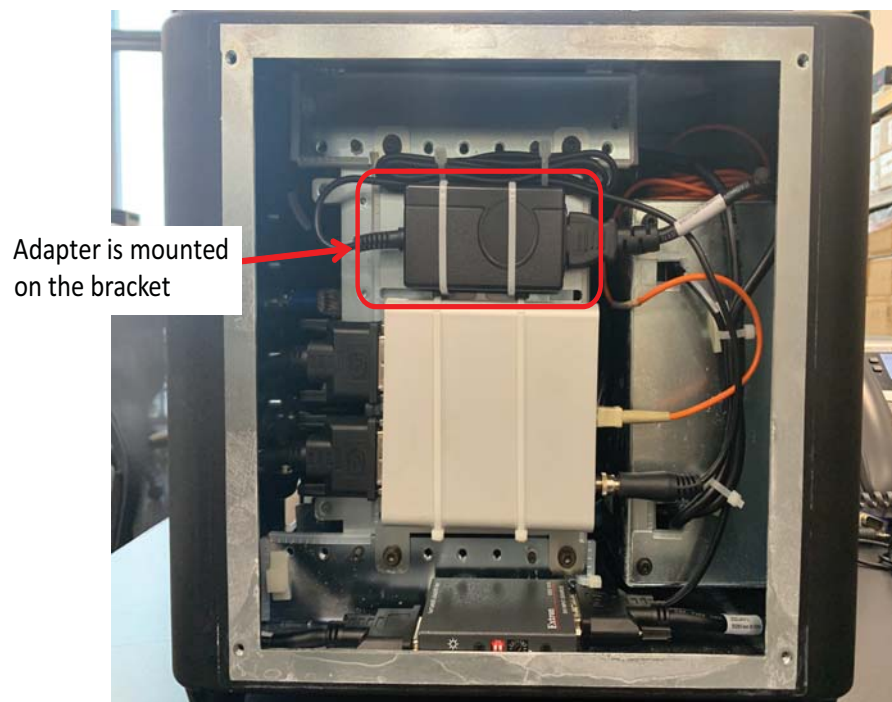
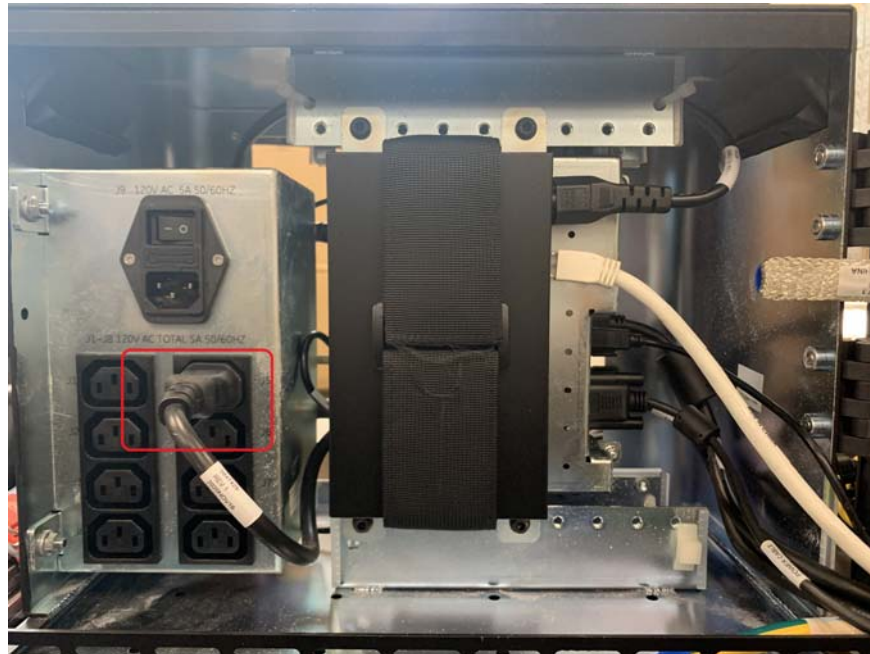

Figure 2-63 Splitter and Adapter Position
Figure 2-64 Power Box Outlet
- 3.) Connect the power cable (5573802) between the adapter and the power box outlet J5. (See Figure 2-63 and Figure 2-64)